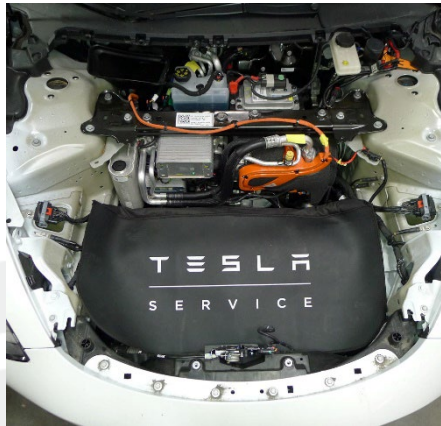

Figure 1
2. Lay a fender protector over the fan shroud and reinforcement beam (Figure 1).